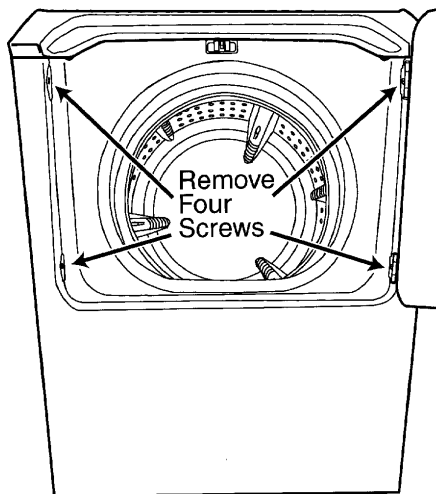

Figure 5-3
2. Open the door and remove the four screws along the inside lip of the door opening. The two that are located vertically, on either side of the door opening, secure the front panel to the front shroud assembly (Figure 5-3). Care should be taken when opening and closing the door with the screws removed.